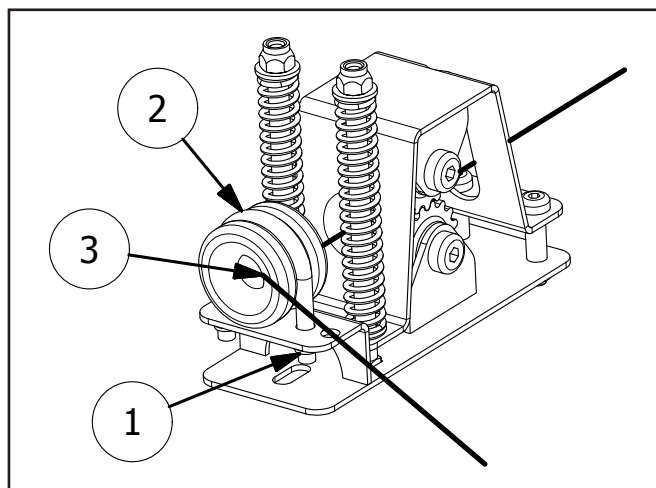

FIG. 58
Fig. 58: Adjust the twine guide so the twine goes through the center of the tensioner rolls. Remove the nuts (1) on the ubolt (2) and put the ubolt for the twine guide in either the left-hand or right-hand set of holes. The side of the guide the twine is following around must be to the center of the tensioner (3).